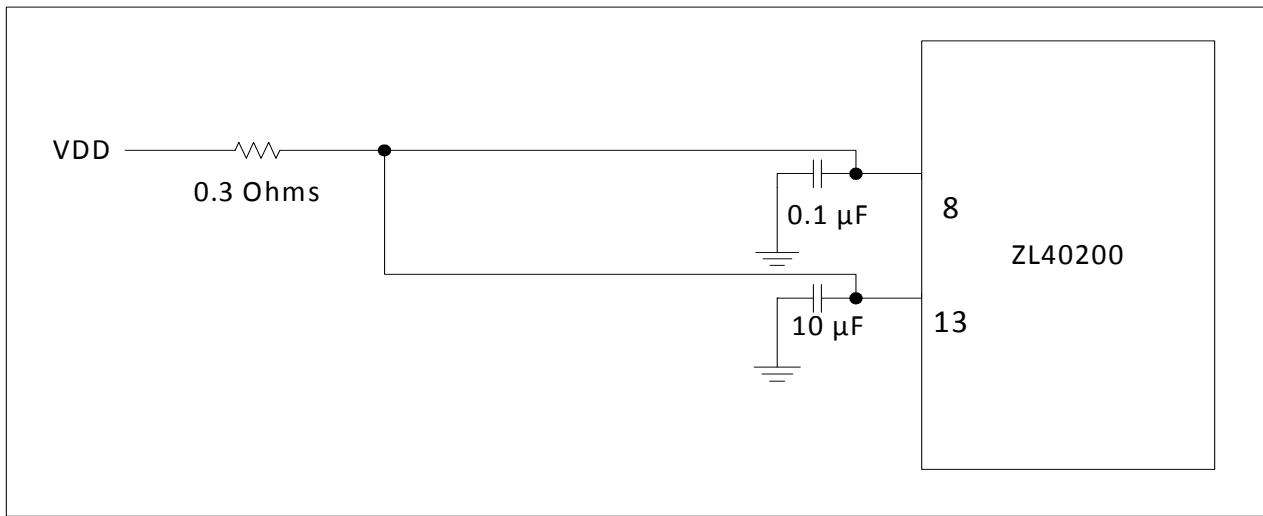

Figure 20 - Decoupling Connections for Power Pins
For optimal jitter performance, the device should be isolated from the power planes connected to its power supply pins as shown in Figure 20.
- a 0.3 Ohm resistor is recommended for the filter shown in Figure 20
The power nets in Figure 20 can be implemented either as a plane island or routed power topology without changing the overall jitter performance of the device.